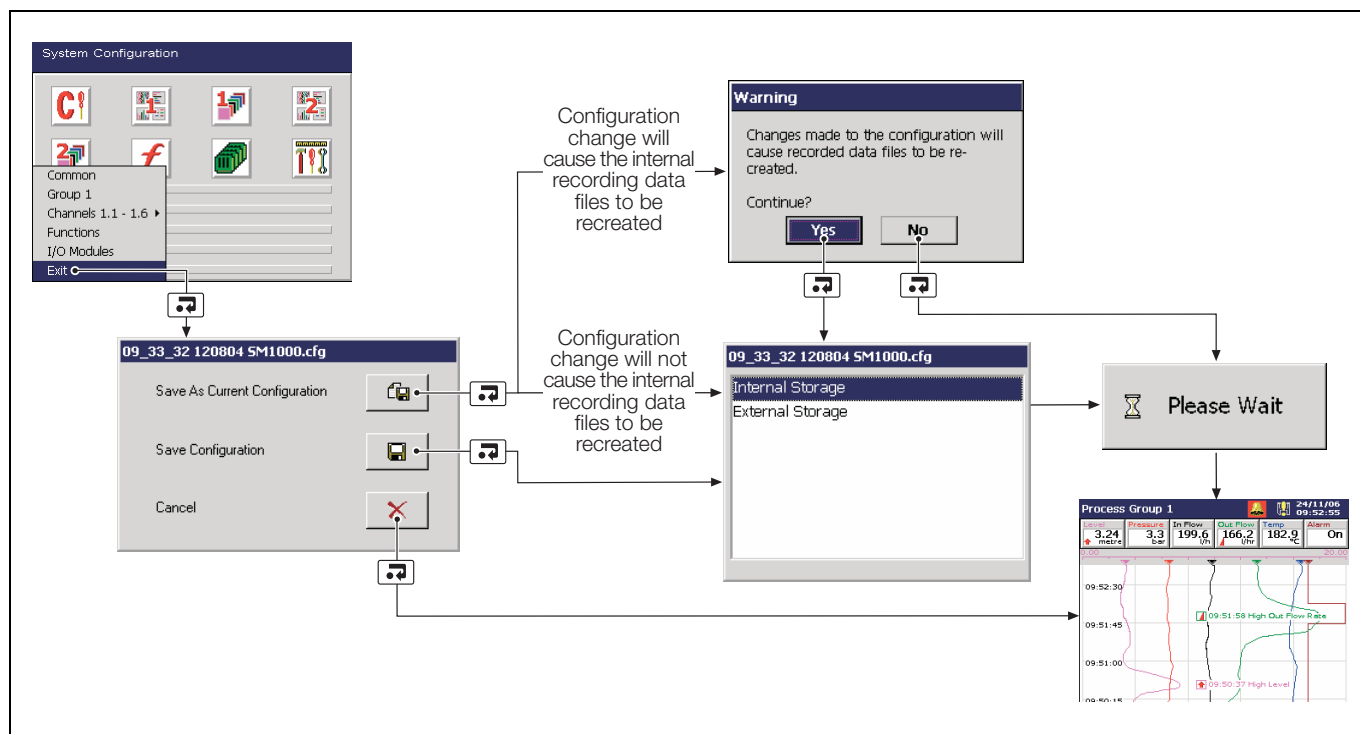

Fig. 6.6 Exiting Configuration Mode
- Changes to the date and time are effective immediately upon selecting 'OK' in the dialog box above. Selecting 'Cancel' upon exiting Configuration Mode (see Fig. 6.6, page 54) **does not** reset the clock to its previous setting. Select 'Cancel' in the dialog box above to exit date and time setup without saving changes.
Note. Changes to daylight saving are effective immediately a method is selected. However, if 'Cancel' is selected upon exiting Configuration Mode (see Fig. 6.6, page 54), the last saved daylight saving settings are restored.